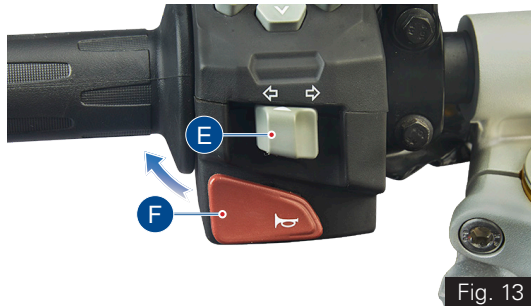

Fig. 13
E) Switch turn signal (ref. Fig. 13)
F) Switch horn (ref. Fig. 13)